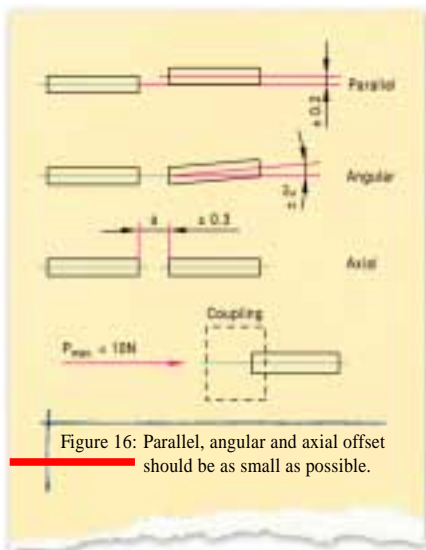

Figure 16: Parallel, angular and axial offset should be as small as possible.
- **Parallel, angular and axial offset** (Shaft misalignment, mounting errors and coupling errors) must be kept to a minimum in the interest of high transmission accuracy. This applies in particular to tachogenerators with foot ("B3-tachogenerators") (➔ Figure 16).